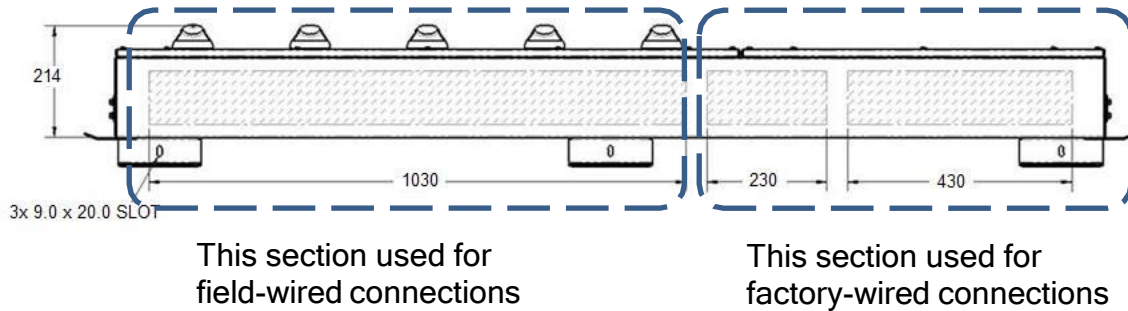

Figure 4.11 Re-Combiner Conduit Entry Locations
2. Note the target area for conduit connections for the PV circuits on the bottom face of the Re-Combiner, as shown in **Figure 4.11**.